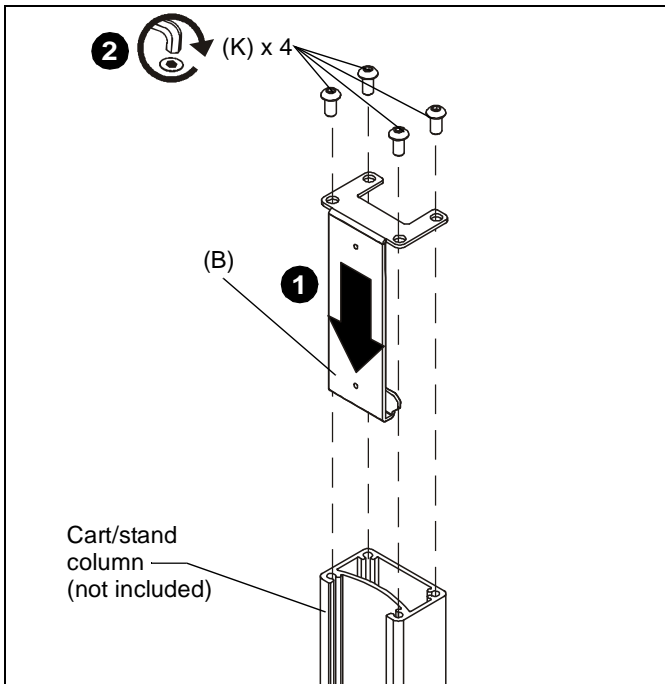

Figure 1
1. Slide cart/stand bracket (B) onto cart/stand column (not included), ensuring that cart/stand bracket tab slides into the front of cart/stand column. (See Figure 1)
2. Fasten the bracket to the cart/stand using four 5/16-18 x 5/8" button head cap screws (K). (See Figure 1)